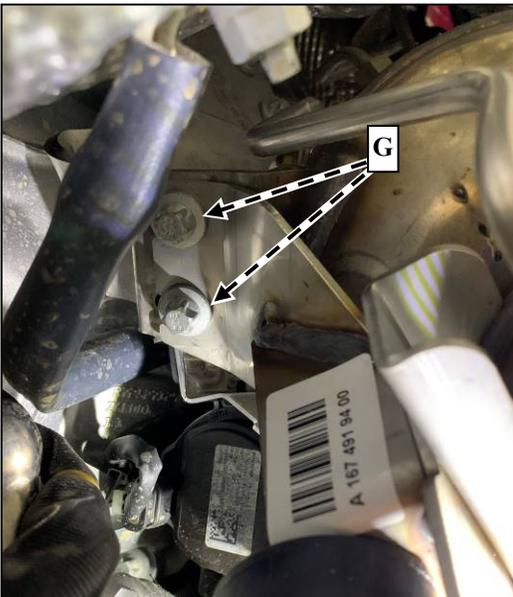

Figure 8
3.5. Tighten bolts (G) for the vibration damper bracket to the catalytic converter bracket (Figure 8).